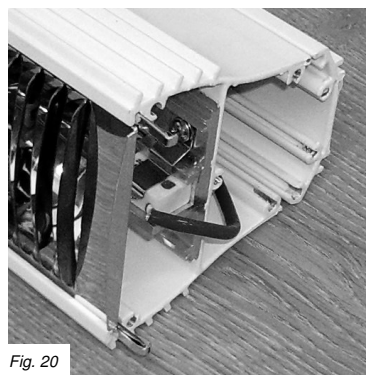
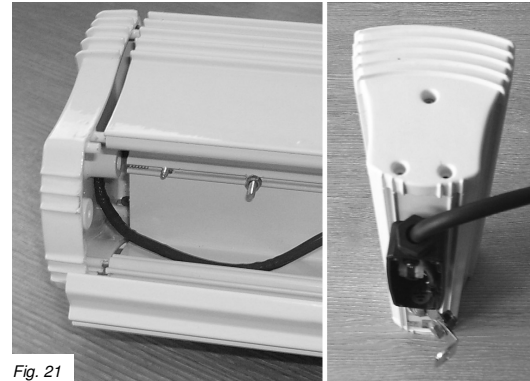

Fig. 20
Fig. 21
20. The other end casing can be aligned and ensuring the lead is not going to get trapped (as step 15!) and is positioned as shown in Fig 20, push the end casing into place. It is recommended that the heater is stood up on its fixed end and downward force applied to ensure everything goes back together correctly (Fig. 21).